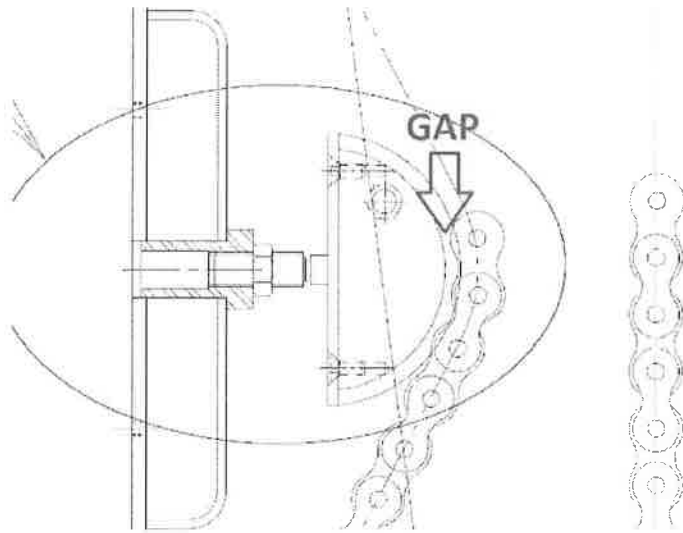

Figure 1
- a. The chain outer plates rub against the inner circumference of the chain binder (Fig. 1)